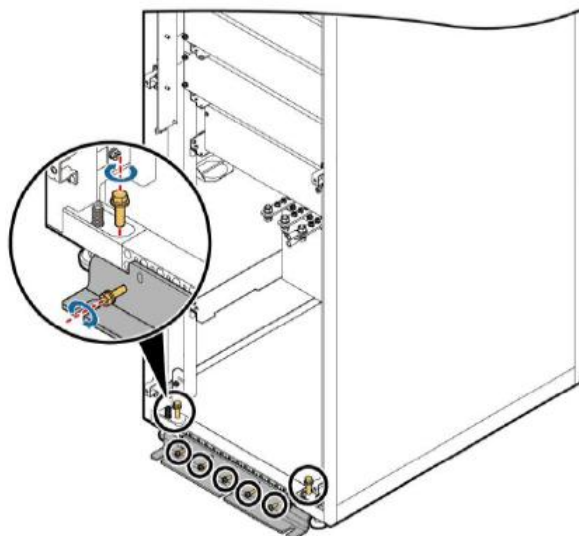
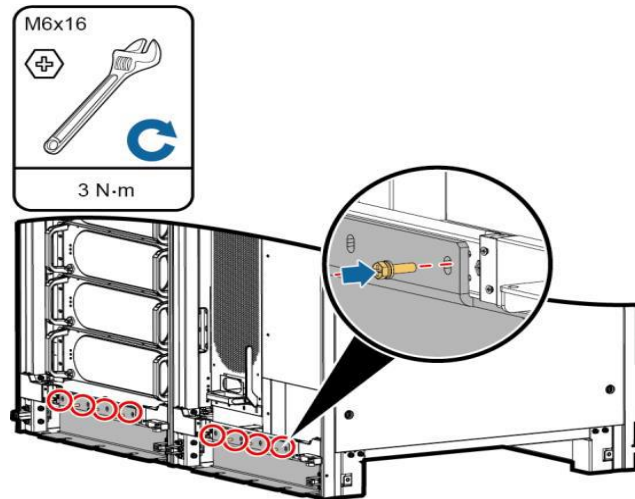

Fig. 2-57 Fixation of anti-seismic assembly on cabinet (300kVA)
Fig. 2-58 Fixation of anti-seismic assembly on cabinet (500kVA)
- Step 4: Use the screws M6 to fix the anti-seismic assembly on the front and rear of the cabinet respectively by at the tightening moment $3\text{N}\cdot\text{m}$. Exemplifying the front of the cabinet as an example, the specific operation is shown in Fig. 2-57 and Fig. 2-58.